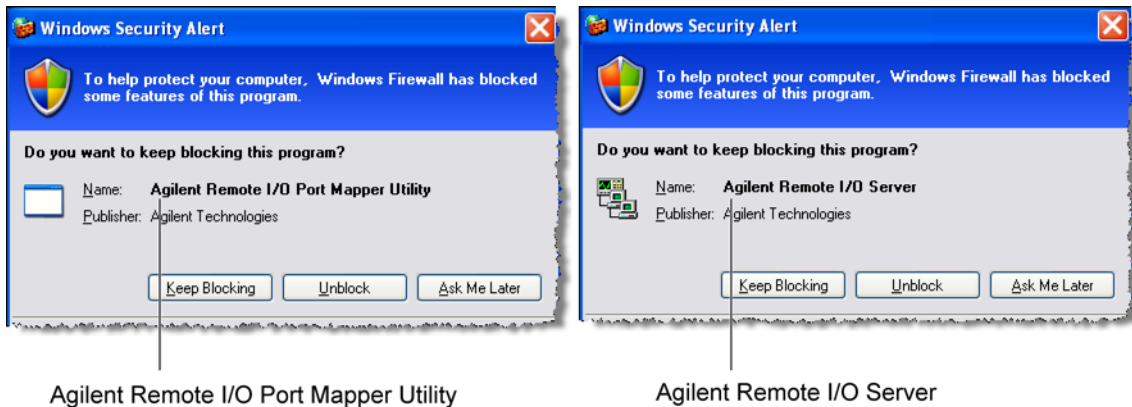

Figure 1-1. Example Windows Firewall Security Alerts
- 7 If you are prompted by a firewall application to block the Agilent Remote I/O Port Mapper Utility and the Agilent Remote I/O Server, select Unblock as shown in Figure 1-1 on page 1-4. See the introduction to this section for more information.